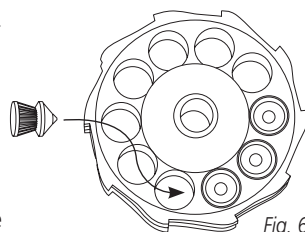

Fig. 6
2. Load pellets through the rear of the magazine. (Fig. 6). Push the pellet noses through the retaining O-ring until their skirts lie flush or below the bottom of the magazine face.